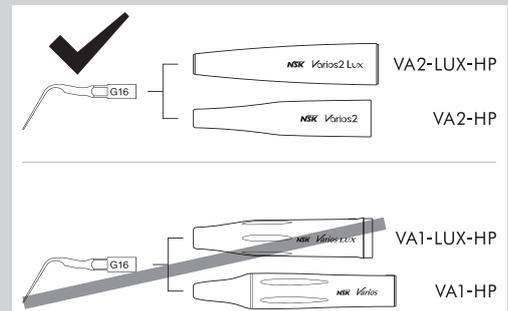

Fig. 17
- Do not connect the supplied G16 Tip to a handpiece other than a Varios2 handpiece (VA2-LUX-HP / VA2-HP). Doing so may cause fracturing of the Tip or scratches on the surface of the dentition, prosthesis, etc. due to an increase in vibration amplitude (Fig. 17).